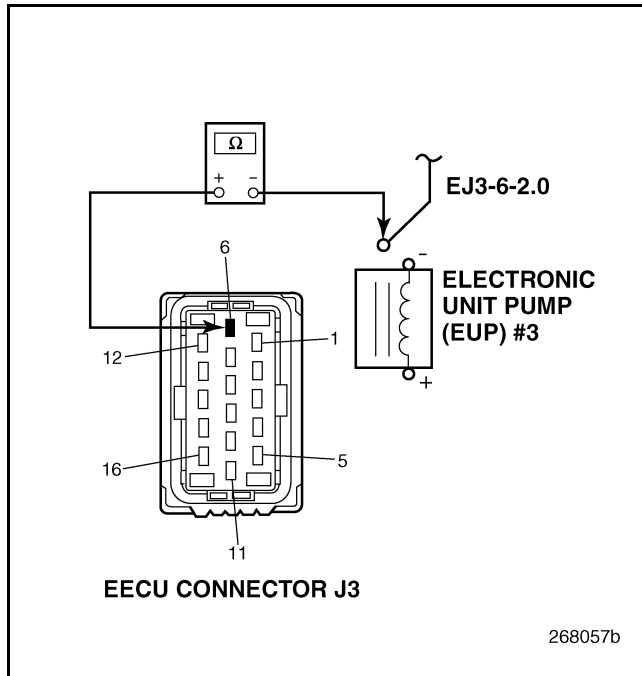

Figure 765
4. Check for continuity between circuit EJ3-6-2.0 at the EUP Solenoid 3 and EECU harness connector J3 pin 6 (see Figure 765).